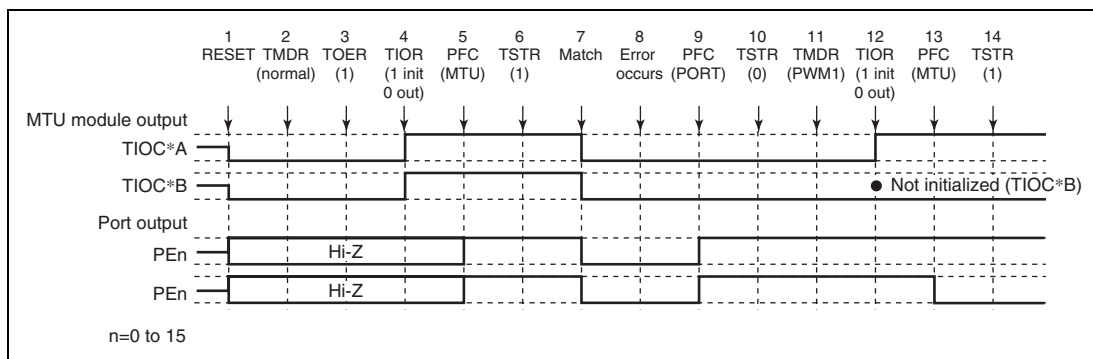

**Figure 11.86 Error Occurrence in Normal Mode, Recovery in PWM Mode 1**
**Operation when Error Occurs during Normal Mode Operation, and Operation is Restarted in PWM Mode 1:** Figure 11.86 shows an explanatory diagram of the case where an error occurs in normal mode and operation is restarted in PWM mode 1 after re-setting.